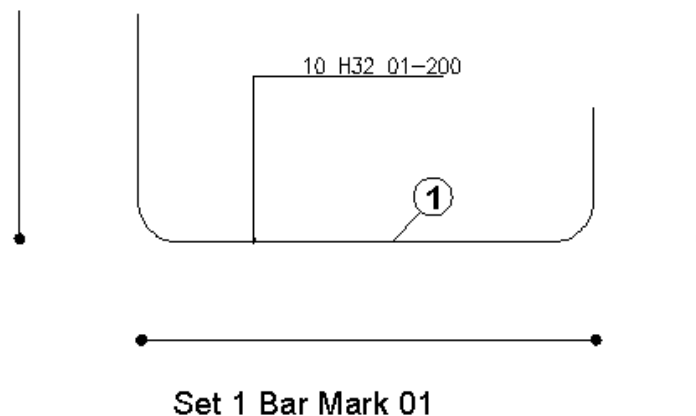

Figure 7.2.4:1 Editing the properties of Shape Code 132
- ▶ Make the Viewport on Edit Single Bar (01) current
- ▶ Select RebarCAD → Editing → Edit Bars or  or double click the bar as marked by point 1 in figure 7.2.4:1 below